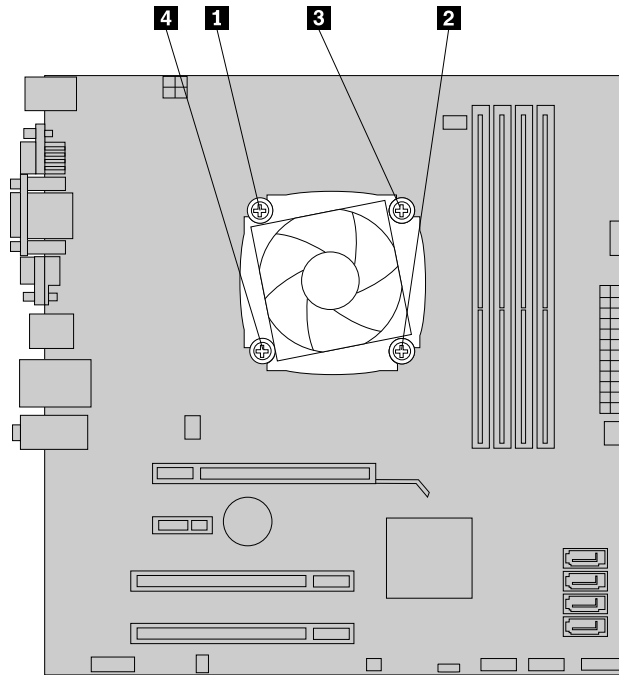

Figure 54. Screws that secure the heat sink and fan assembly
9. Follow this sequence to install the four screws to secure the new heat sink and fan assembly, as shown in Figure 54 “Screws that secure the heat sink and fan assembly” on page 118: